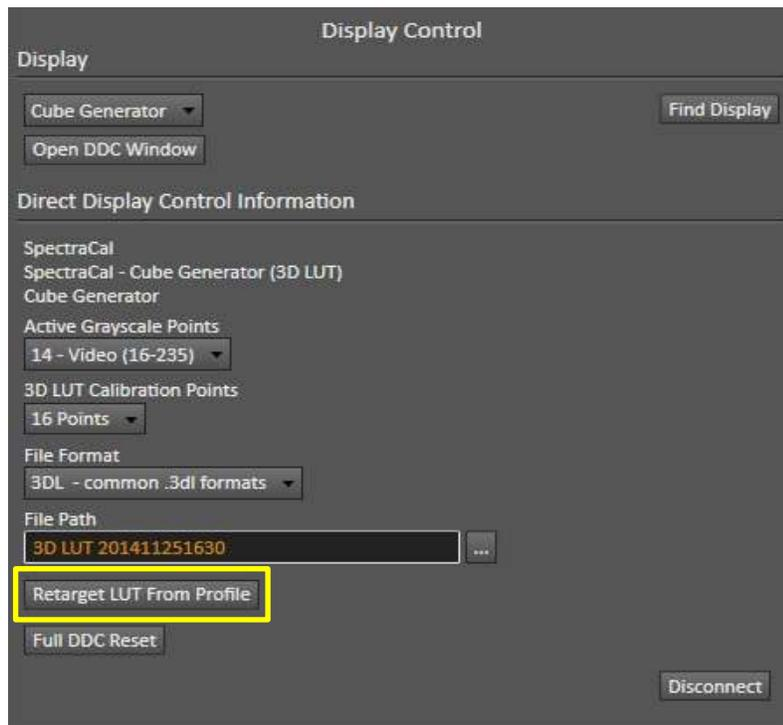

Figure 5: On the CalMAN Display Control tab, click the “Retarget LUT from Profile” button to create an additional LUT with different calibration targets.
1. On the CalMAN Display Control tab, click the “Retarget LUT From Profile” button (figure 5).